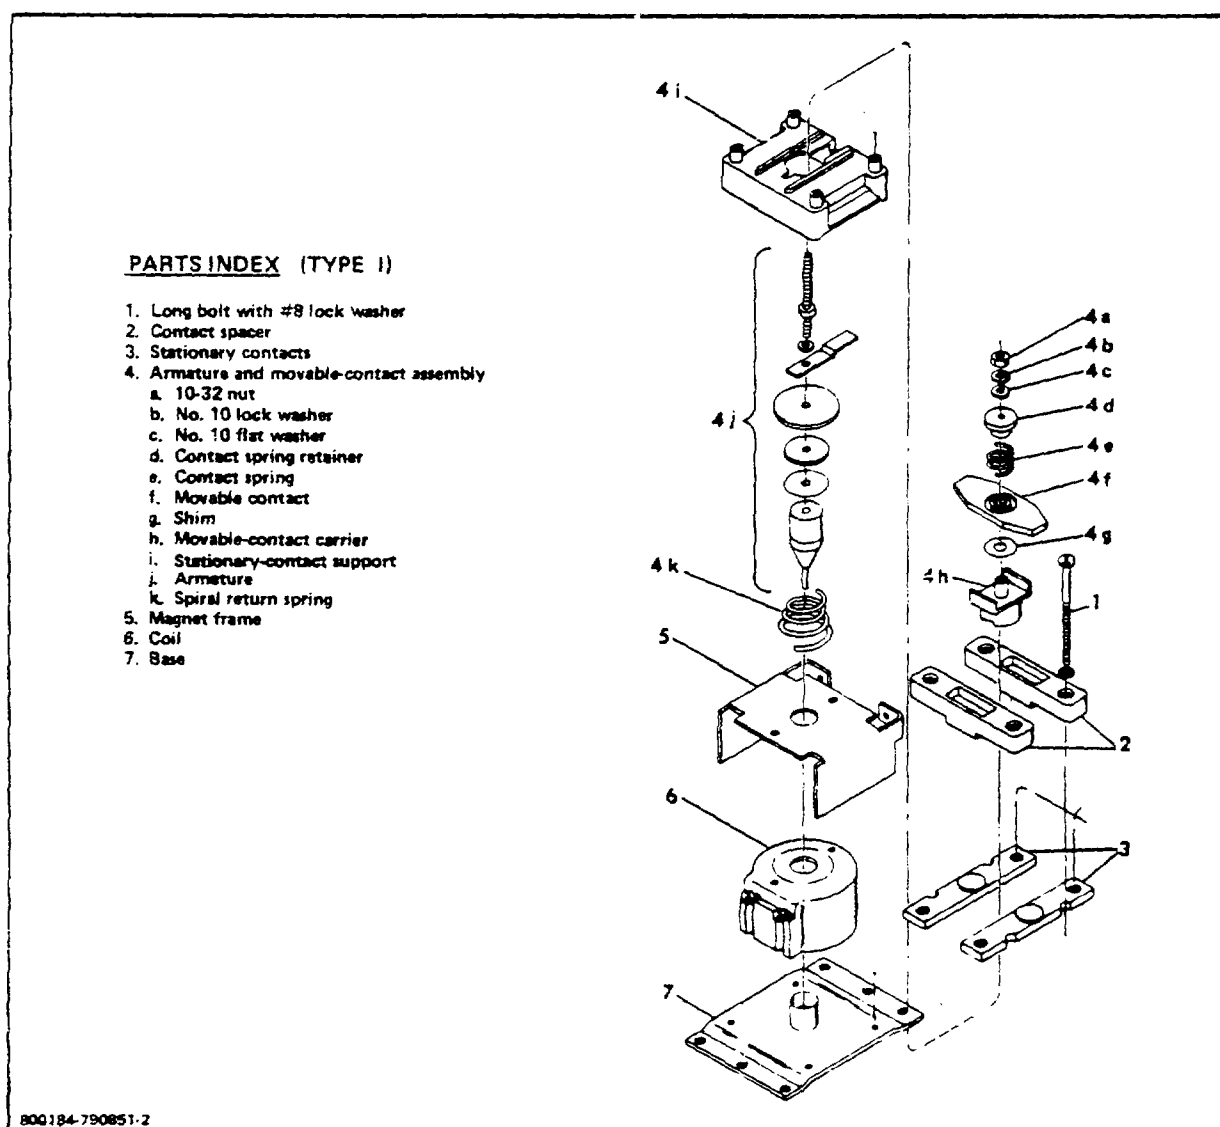
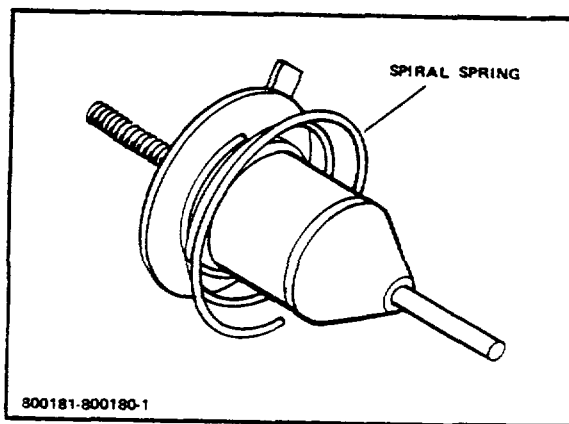

Figure 5-3. Contactor-Exploded View (SPST)
Figure 5-6. Spiral Spring Installation
Refer to Figure 5-3 for an exploded view and parts index.
e. Assembly (SPST, Fig 5-3)
- (1) Inspect all parts for wear or damage and replace as required.
- (2) Force the small end of the spiral spring over the small diameter on the armature assembly (Fig 5-6).
- (3) Assemble the armature components (Items 4A through 4K, Fig. 5-3). Tighten the nut to 14-18 in-lbs of torque (1.6-2.0 N-m).
- (4) Locate the projections on the magnet frame in the indentations on top of the coil with the frame positioned as shown in Figure 5-3.
- (5) install the armature and moveable contact assembly to the magnet frame.